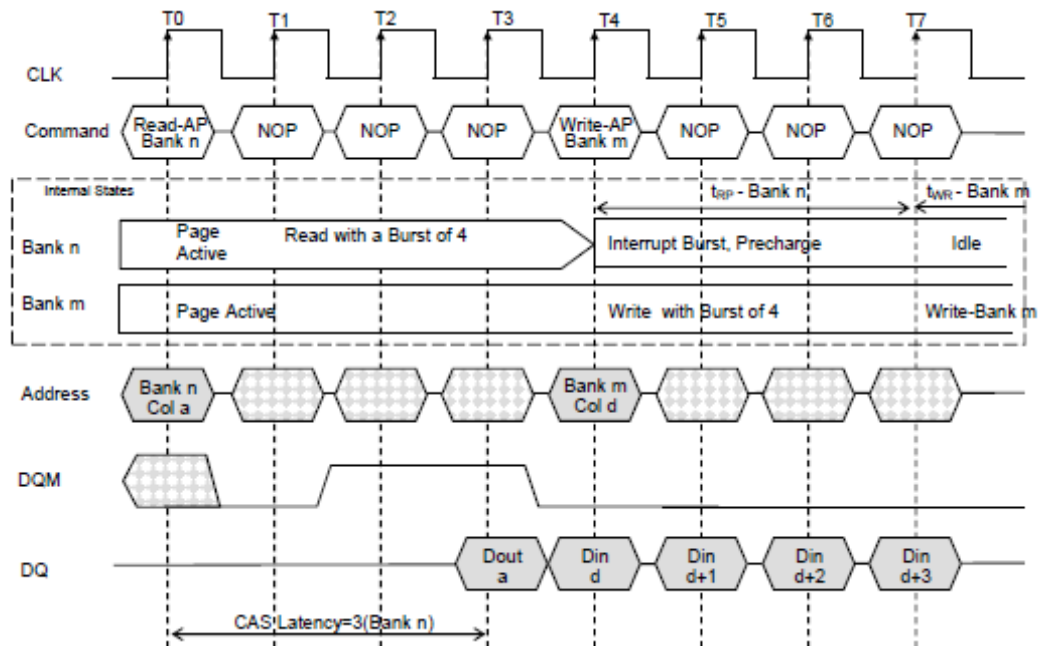

Figure 26. Read With Auto Precharge Interrupted by a Write(Read CAS Latency =3)
2. Interrupted by a Write(with or without auto precharge): A Write to bank m will interrupt a Read on bank n when registered. DQM should be used two clocks prior to the Write command to prevent bus contention. The Precharge to bank n will begin when the write to bank m is registered. (Figure 26.) Write with Auto Precharge